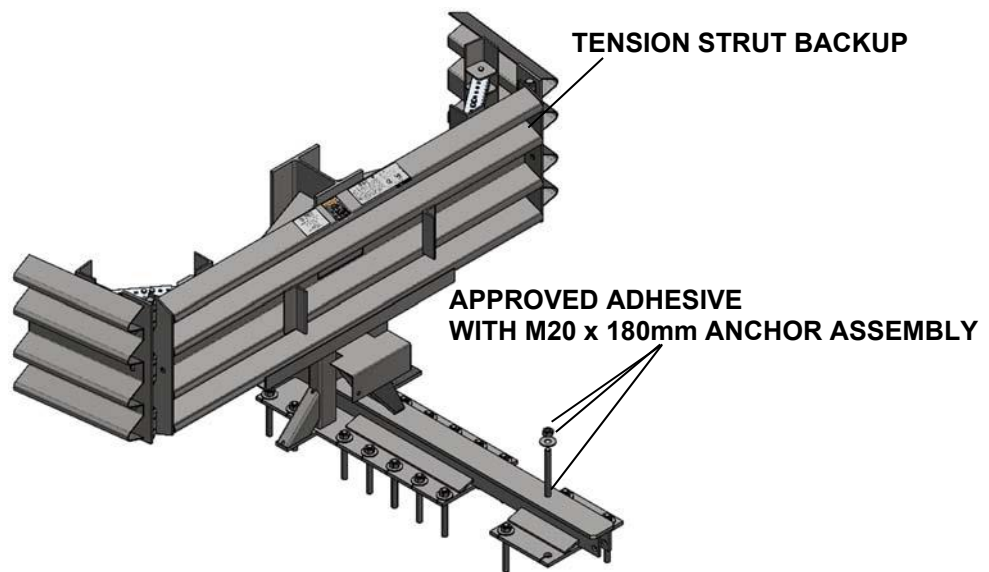

Figure 15
2) Anchor the Tension Strut Backup (Figure 15)